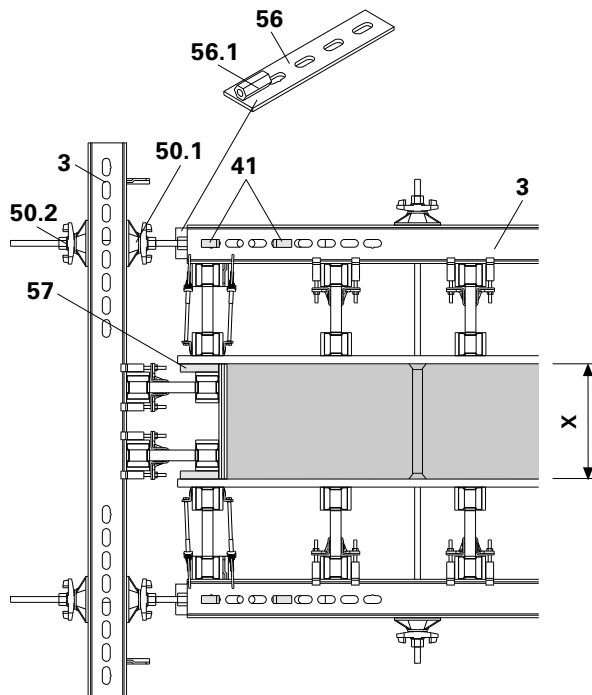

Fig. B9.02
1. Insert stopend tie (56) into the Steel Waler SRZ (3) of the element.
2. Fix stopend tie by hammering in KZ wedges (41) tightly.
5. Place prefabricated stopend element against limit plate (57).
6. Unscrew outside wingnut pivot plate (50.2) and tighten stopend element. (Fig. B9.02)